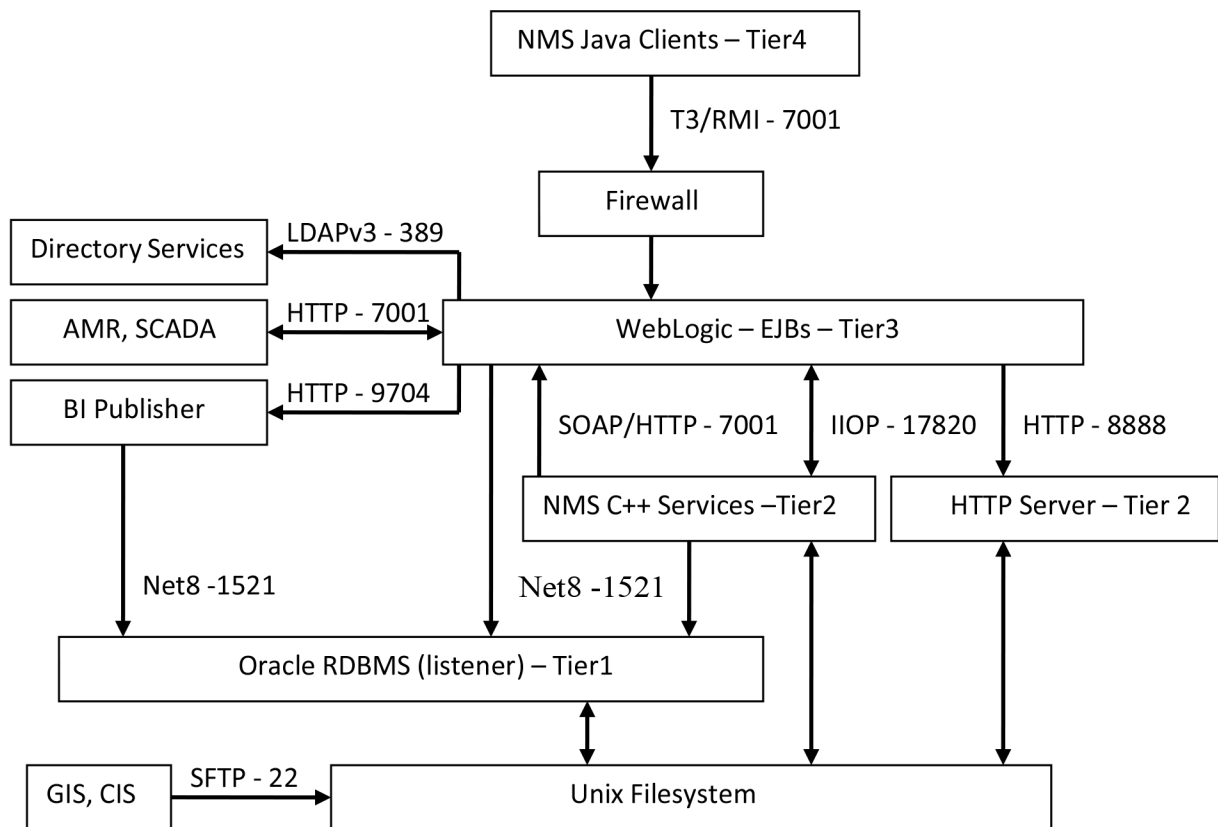

Figure 1: Typical Network Management System – core technology, protocols, and port overview
The Oracle Network Management System uses a multi-tier architecture that can generally be broken down into four logical tiers – see (Fig. 1). A given NMS implementation can choose to implement all of these tiers on a single UNIX server or can implement each tier on one or more dedicated servers. Below is a high-level overview of each NMS tier along with common deployment and security considerations.
- Not pictured in Fig. 1 above is a common connection from one of the NMS corbagateway processes to a Simple Mail Transport Protocol (SMTP) server. This is a not always but often used configuration to send utility customer interruption notices and texts to account reps or other interested parties (via the optional NMS Service Alert product). Outgoing SMTP traffic from Corba Publisher (corbagateway in publisher mode) is not encrypted.